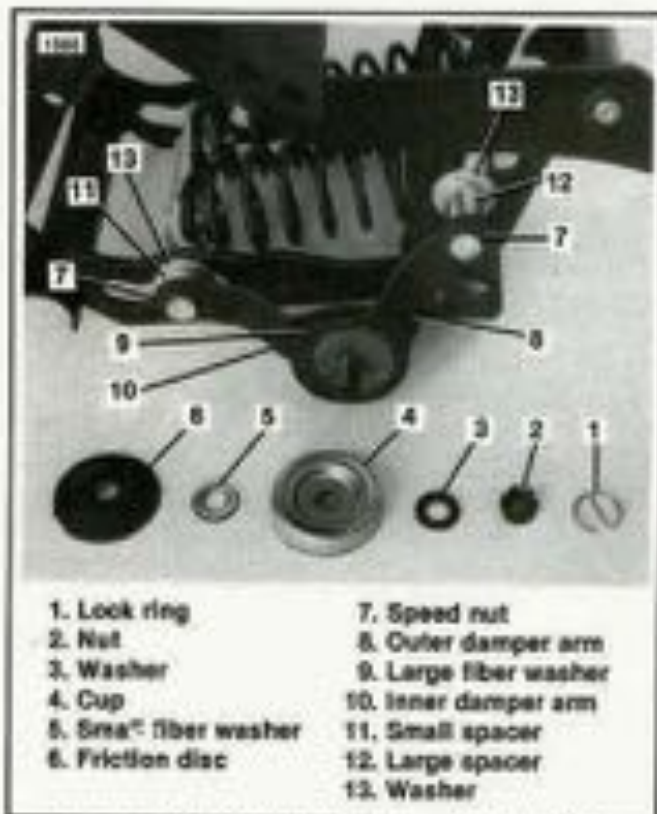

Figure 2-105. Friction Damper — 1978½ - 1980
- See Figure 2-105. Remove the two socket head screws and washers from the suspension and rear fender. Remove the suspension assembly.
1. See Figure 2-105. Place the suspension assembly on the motorcycle. Fasten it to the rear fender using the original socket head screws.
5. See Figure 2-105. Install the 8 rubber washers as shown.